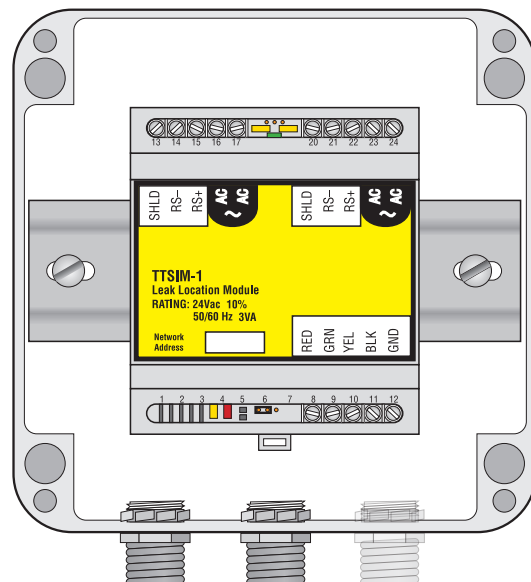

Figure 2. NEMA 4x Enclosure
### Mounting the TTSIM-1 module in the optional NEMA-4X Enclosure – Figure 2
- A typical outdoor or harsh environment installation will require up to three holes in the nVent RAYCHEM TraceTek TTSIM-ENC: one for inbound power and telemetry, one for outbound power and telemetry and one for the sensor cable leader. See Figure 2.